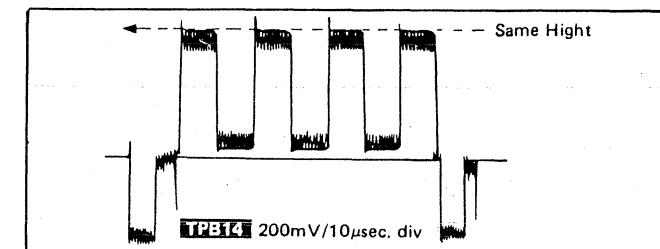

Fig. 8
4. Adjust Chroma control (R5804) so that the waveform **TPB14** becomes as shown in Fig. 8.